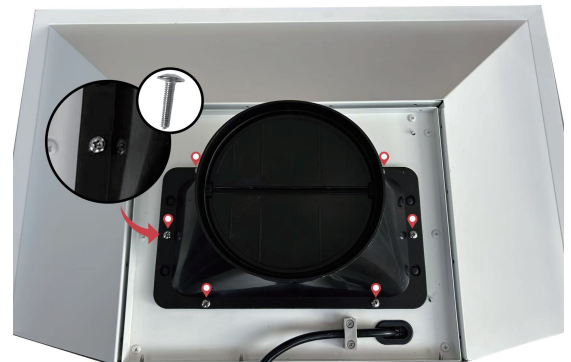

Figure 4
- Ensure the exhaust outlet is oriented in the correct **direction as shown in Figure 4**.